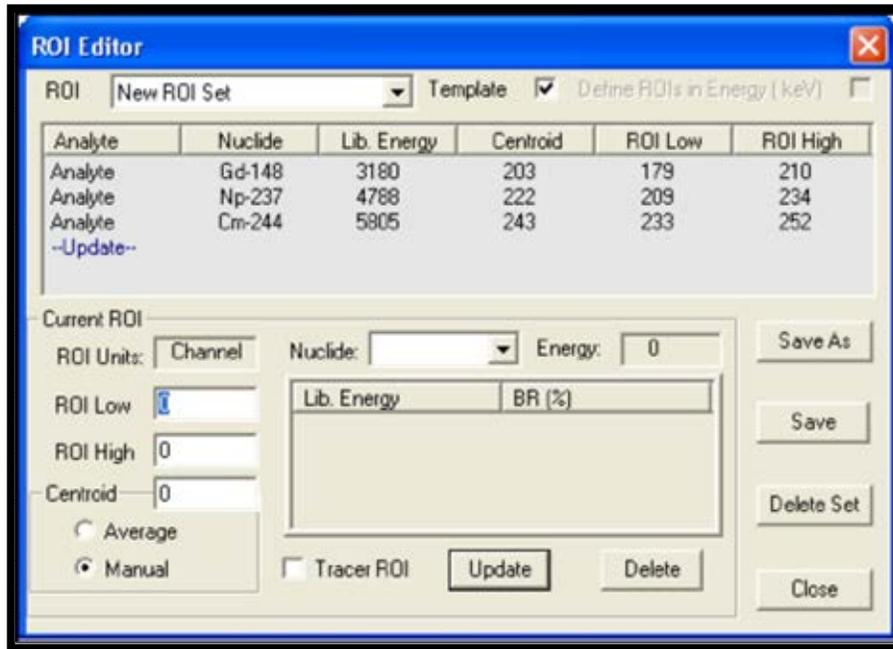

Figure 162. ROI Editor
- f. In the ROI Editor, click the **Nuclide** drop list and choose ^{148}Gd , then click the **Update** button. The values selected will now be displayed in the main section of the ROI Editor. Repeat this procedure for ^{244}Cm and ^{237}Np (Figure 162).